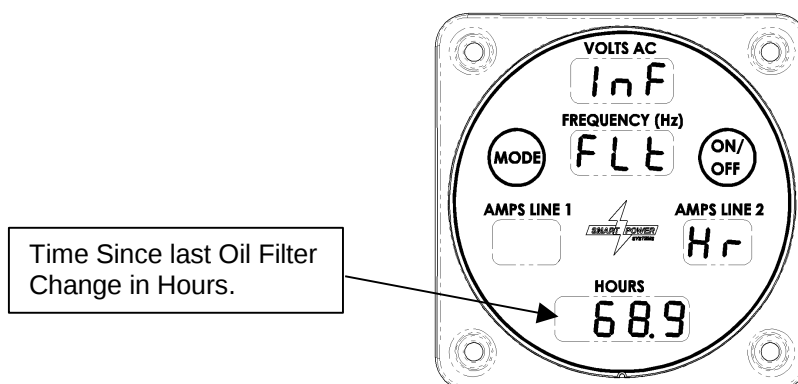

Figure 21 – Oil Filter Run Time Display
- d. Pressing the Mode switch a fourth time will cause the amount of time since the oil filter was last changed to be displayed in the hours field as seen in Figure 21.